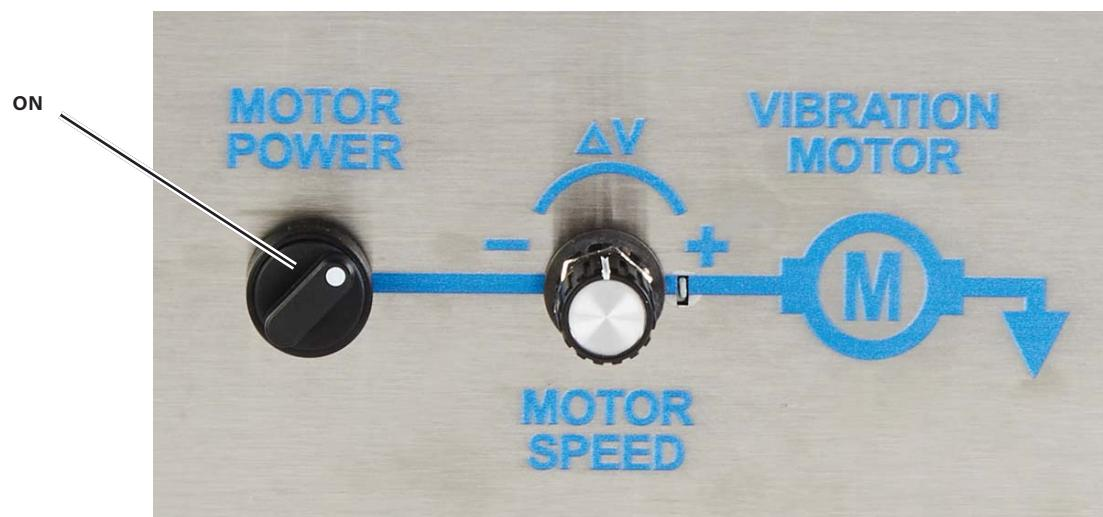

Figure 4-9. MOTOR POWER Switch in On Position
- A. Rotate the MOTOR POWER switch (on the workstation panel) clockwise to the ON position to enable the motor, as shown in figure 4-9.